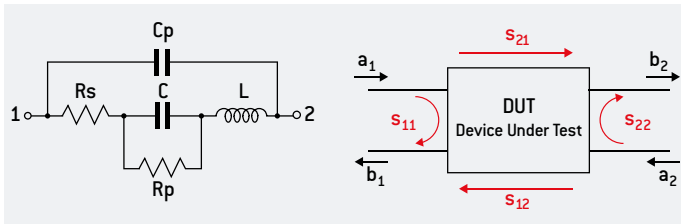
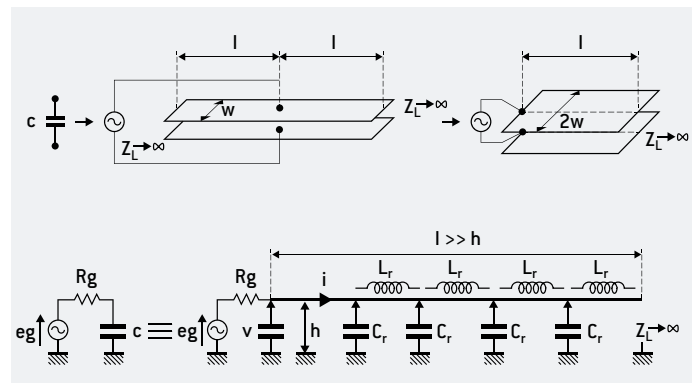
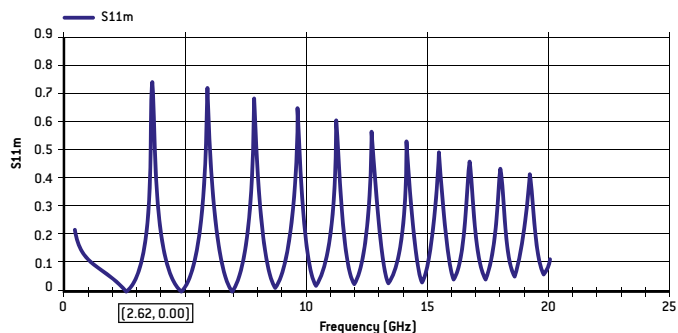
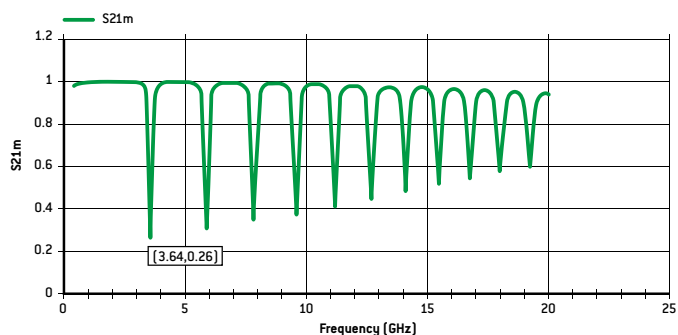

Figure 1: Equivalent Model
Figure 7: Transmission line model of a Single Layer Capacitor
Figure 4: S11curve for a 251SHF150 from EXXELIA ABC software
Figure 5: S21curve for a 251SHF150 from EXXELIA ABC software
The equivalent model for a capacitor is usually defined by the figure 1 where:
The variation of S11 (figure 4) and S21 (figure 5) show the different resonance frequencies SRF [serial resonance frequency] and PRF [parallel resonance frequency]
For example for a 251SHF150 (size 0805 and capacitance 15pf): SRF=2.64 GHz and the ESR at this frequency is 0.200 ohm (figure 5)
- The PRF is associated with the parasitic capacitance Cp defined in figure 1. Assuming that $C_p \ll C$, then:
The PRF could be determined by the S21 measurements (figure 5)
The lumped model shown in Fig. 1 explains only the existence of one serial self-resonant frequency and one parallel self-resonant frequency, consequently, the lumped model is unable to explain why real measurements exhibits a double infinity of self-resonant frequencies (see figures 4, 5 & 6).
It is currently admitted [Ref.1] that the lumped model shown in Fig. 1 is convenient only for frequencies that are lower than roughly the half of the first SRF. For frequencies close or above the first SRF, it is mandatory to consider the distributed model or transmission line model [Ref.1].
This distributed model can be established more easily with the equivalent circuit of a Single Layer Capacitor (SLC) shown in Fig. 7:
After examination of Fig. 7, one can see that a Single Layer Capacitor can be modeled by a transmission line with an open termination that is currently called an "open stub".
Consequently, for predicting and understanding the behavior of a capacitor at frequencies that are close or above the first SRF, the lumped model (shown in Fig. 1) is not applicable and must be replaced by the distributed model or transmission line model (shown in Fig. 7).